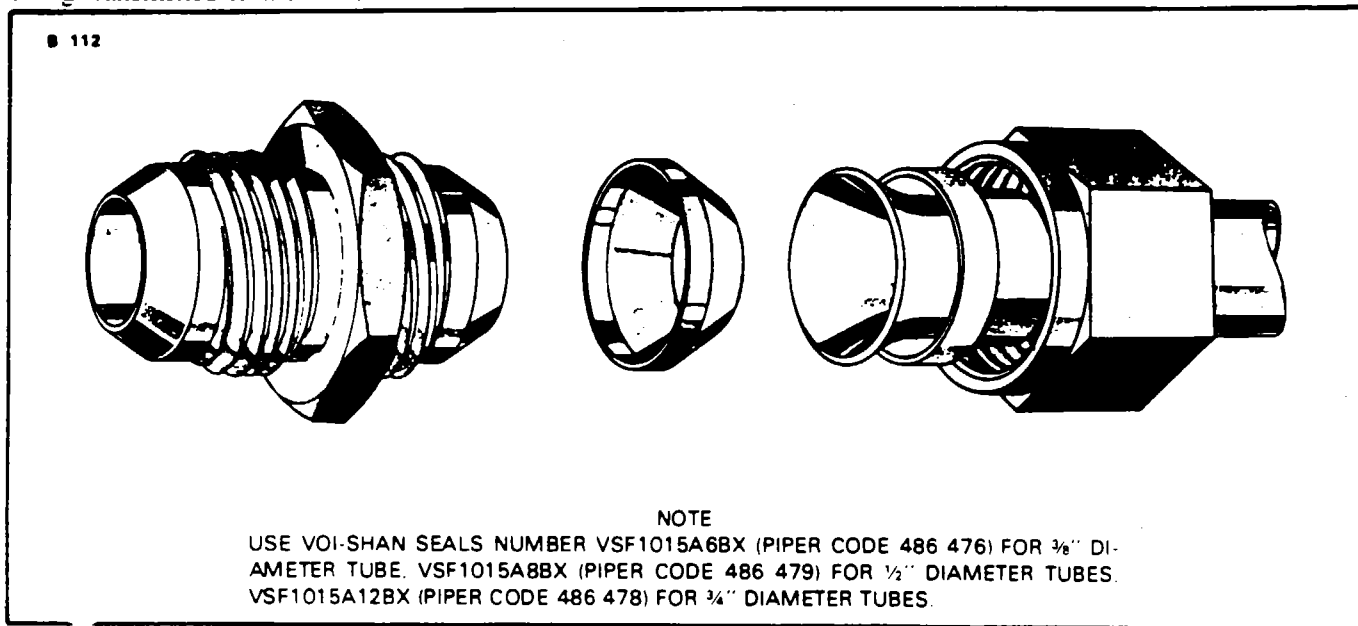

Figure 14-46. Installation of VOI-SHAN Seals
b. Flared fittings are sometimes difficult to seal. On the hard-to-get-at fittings, it may be necessary to install Voi-Shan seals. (Refer to Figure 14-46.) To install the seal, place seal over the nipple end and place tube flare over seal and nipple. Tighten per the procedure given in paragraph a, except tighten only once.